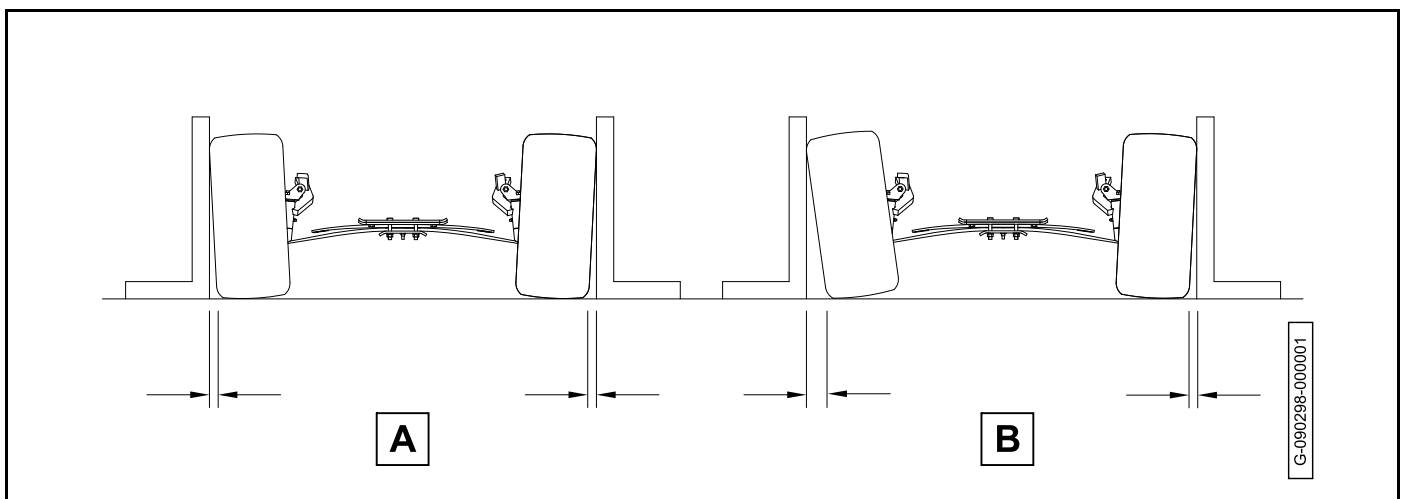

Figure 7-9 Check Camber
2. Check each front wheel with a framing square. At the floor, there should be an equal amount of space (A) between each tire and the framing square (**Figure 7-9**).
3. If there is not an equal amount of space (B) between each tire and the framing square (**Figure 7-9**), go to step 4.